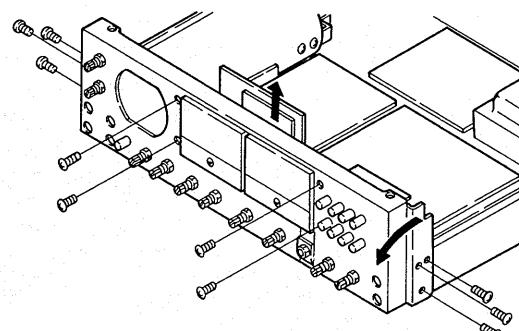

Fig. 27
6.5 LEVEL METERS (Figs. 27, 28)
2. Remove ten screws as shown in Fig. 27.